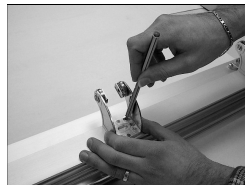

Fig. 2
- B. Place the motor support bracket in position at the edge of the fixed part in line with the centre line pencilled in earlier and pencil in the four openings to be used for fixing (Fig. 2).
- B. Position the motor support bracket at the edge of the frame of the mobile part in line with the centre line and trace in the four openings to be used for fixing (Fig. 2).